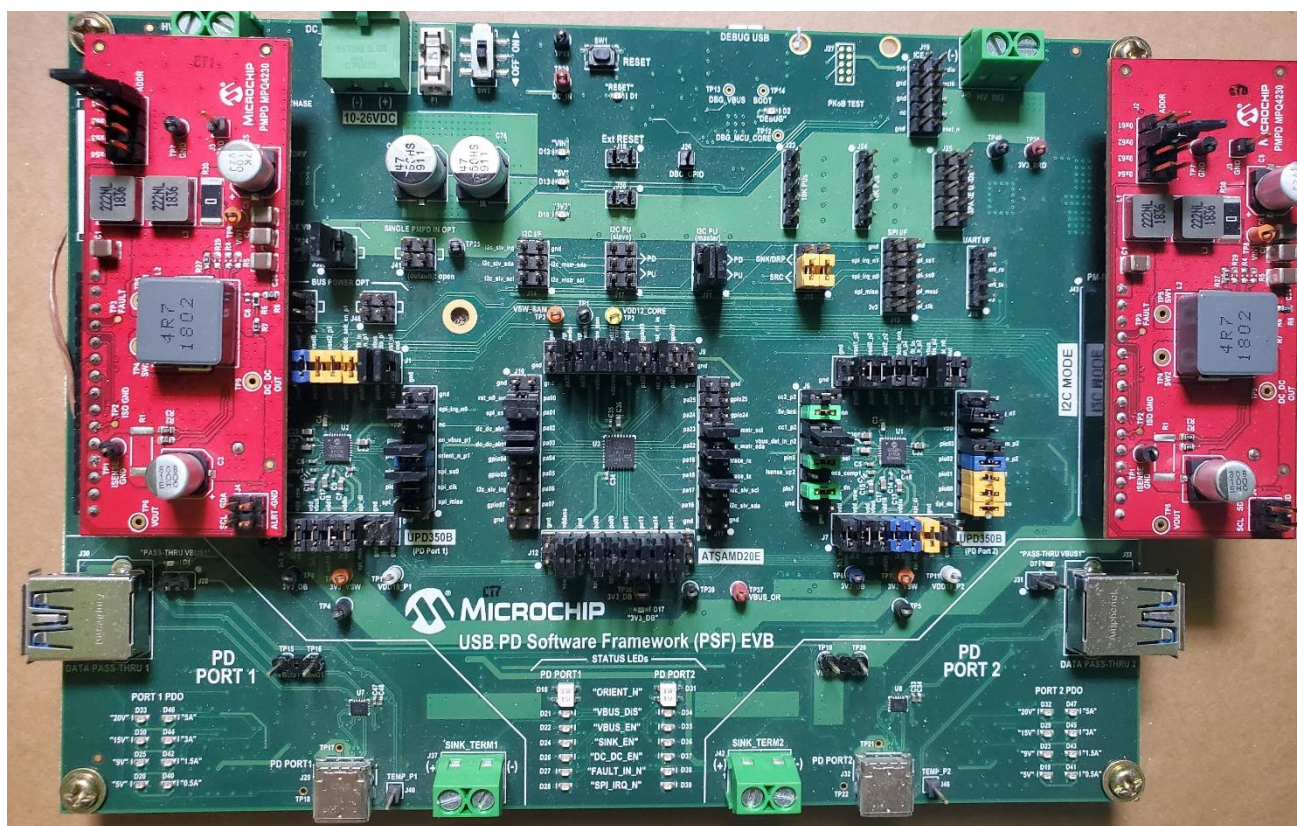

Figure 5.1 PM-PD Orientation
1. Connect PM-PD cards to J34 and J43 of the PSF-EVB in correct orientation as shown in Figure 5.1